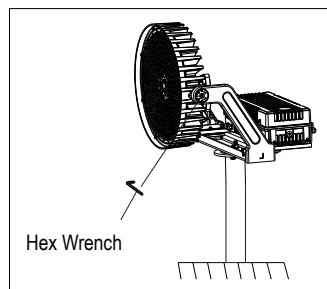

Figure 8
2. Use a hex wrench to loosen the adjustment screw for angle modification (Figure 8).